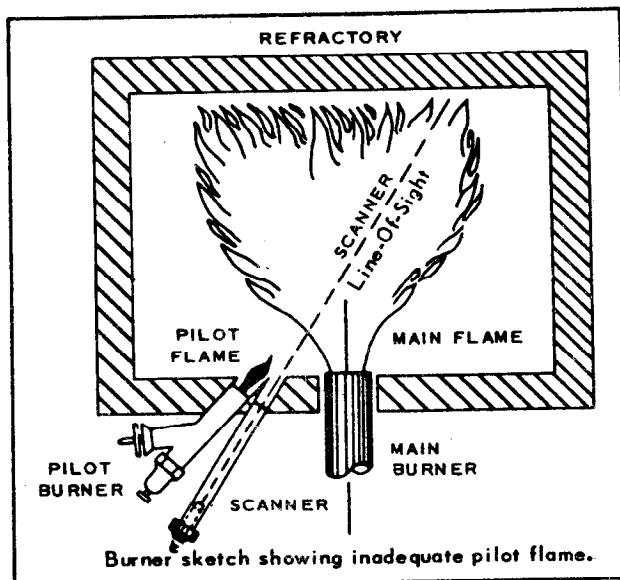

Figure 20
13. Reduce the size of the pilot until the flame relay is observed to drop out, then slowly increase the size of pilot flame just to the point where the flame relay pulls in. This is called minimum pilot. (Note Figs. 20, 21, 22.)